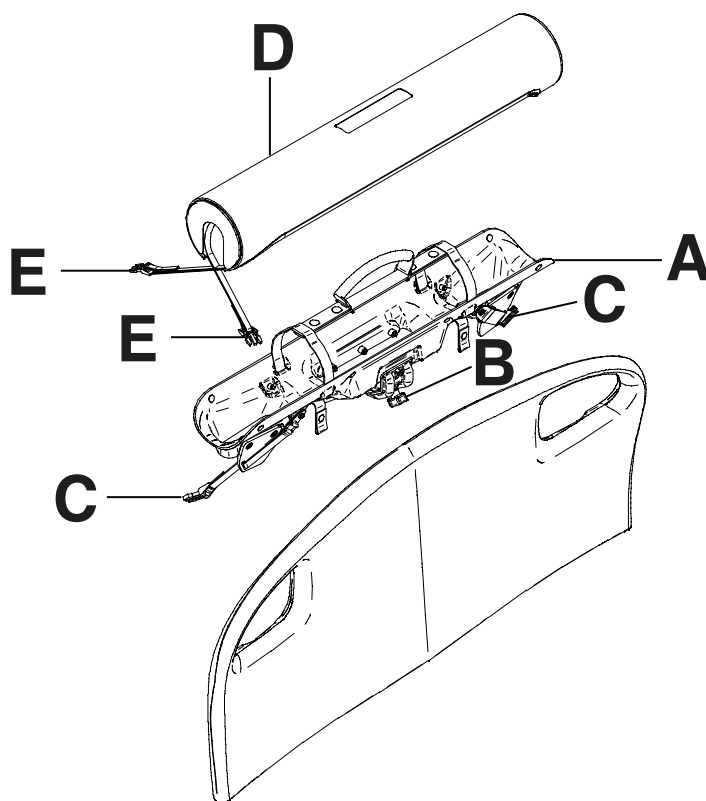

Figure 1-133: Right fit oxygen bottle holder
1. Place the oxygen bottle holder on top of the headboard (A) (Figure 1-133 on page 1-112).
2. Screw on the oxygen bottle holder clasp onto the headboard (B) (Figure 1-133 on page 1-112) to secure the bottle holder to the product.
3. Route the bottom straps (C) through the headboard handles (Figure 1-133 on page 1-112).
6. Place the oxygen bottle holder cover on top of the oxygen bottle (D) (Figure 1-133 on page 1-112).
7. Fasten the oxygen bottle holder cover straps together (E) (Figure 1-133 on page 1-112).